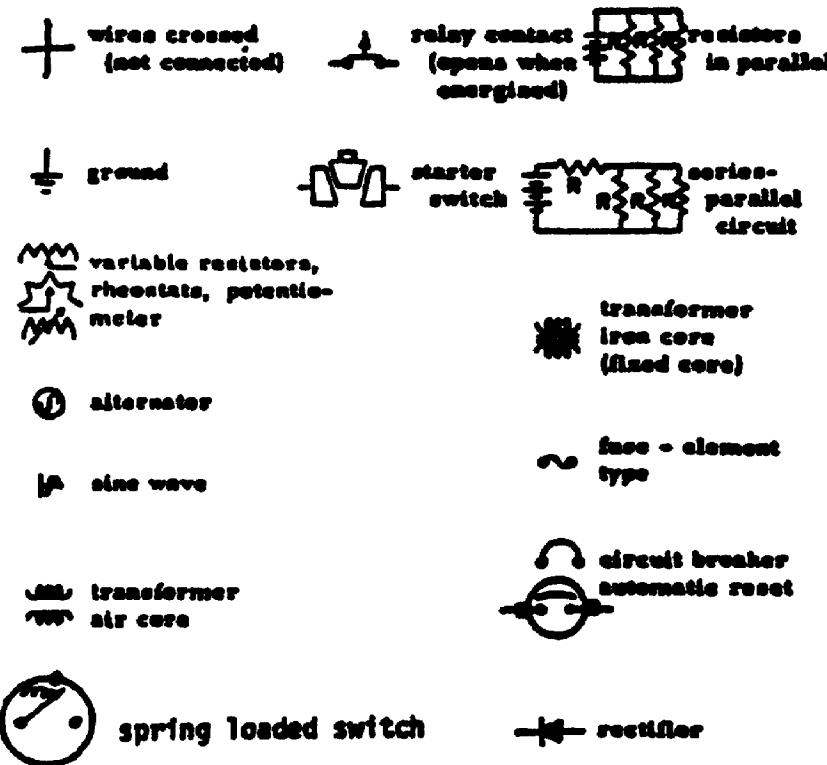

Figure 1-1. Electrical Symbols (page 1 of 2).
(19) Magnetism - The property exhibited by certain substances and produced by electron, electric current, and/or motion which results in the attraction of iron.
(20) Negative - A term designating the point of lower potential when the potential difference between two points is considered.
(21) Ohm - A unit of measure of electrical resistance.
(22) Parallel Circuit - The electrical circuit formed when two or more electrical devices have like terminals connected together, positive to positive or negative to negative, so that each may operate independently of the other.
(23) Positive - A term designating the point of higher potential when the potential difference between two points is considered.
(24) Potential - A characteristic of a point in an electric field or circuit indicated by the work necessary to bring a unit positive charge from infinity; the degree of electrification as compared to some standard. For example: the earth.
(25) Relay - In the electrical system, a device that opens or closes a second circuit in response to voltage or amperage changes in a controlling circuit.
(26) Resistance - The opposition offered by a substance or body to the passage through it of an electric current.
(27) Series Circuit - The electrical circuit formed when two or more electrical devices have unlike terminals connected together, positive to negative, so that the same current must flow through all.
(28) Volts - A unit of potential, potential difference, or electrical pressure.
b. Electrical Symbols. As a maintenance supervisor, you must be able to interpret schematic wiring diagram. To read these diagram, you must know the meaning of the symbols used. Examples of same electrical symbols are illustrated in Figure 1-1.